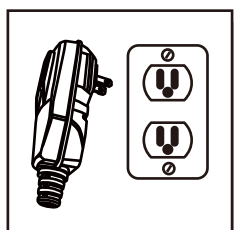

Fig. 13
- Unwind the power cord completely and plug the GFCI into a grounded 120 volt outlet. (Fig. 13).